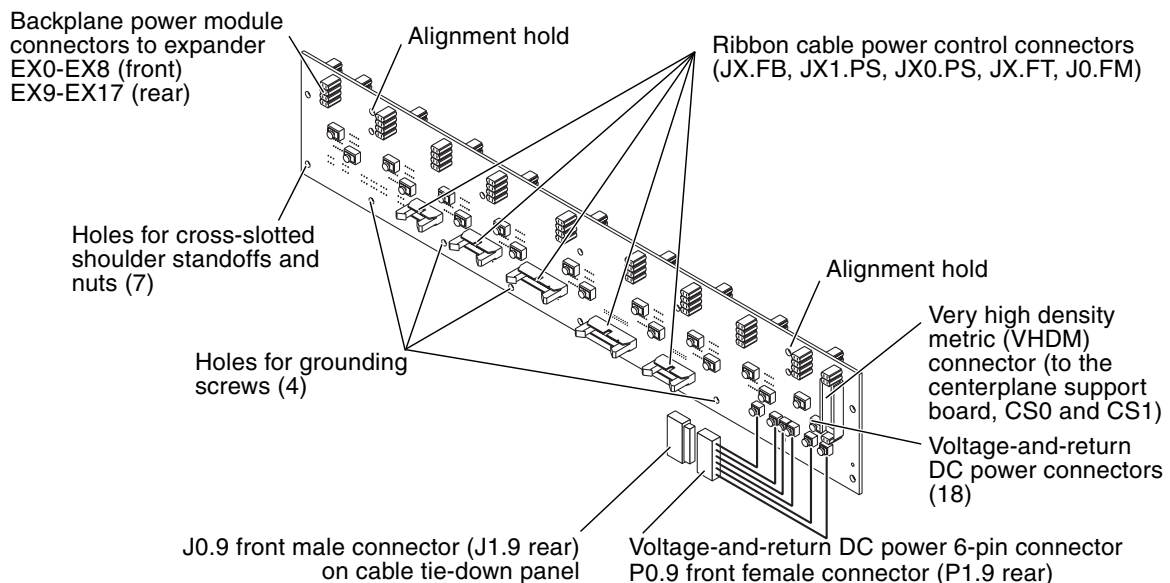

FIGURE 15-1 Power Centerplane Power Control Connections
3. Remove fan tray F7, to access the two (2) lower M4x8 Phillips screws of the DC cable cover, and place on a flat, sturdy, surface. See Section 4.2.3, “Removing a Fan Tray” on page 4-4.
4. Remove the DC cable cover by removing the nine (9) M4x8 Phillips screws from the DC cable cover.
5. Remove the five (5) ribbon cable power control connectors from the power centerplane (FIGURE 15-1).
3. Remove the DC cable cover by removing the nine (9) M4x8 Phillips screws.
4. Remove the five (5) ribbon cable power control connections from the power centerplane. See FIGURE 15-1.
6. Remove the eighteen (18) voltage-and-return DC power cables from the power centerplane by loosening the captive screw of each cable while pulling back on the lug.
7. Remove the four (4) M4x10 panhead grounding screws from the power centerplane.